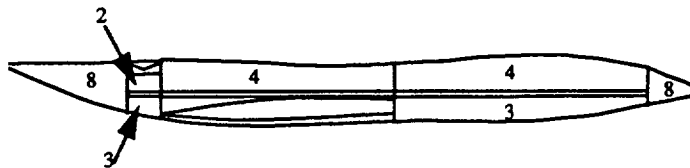

FIGURE C.22.
- Using figure C.22 as a guide, distribute longeron between remaining breaks.